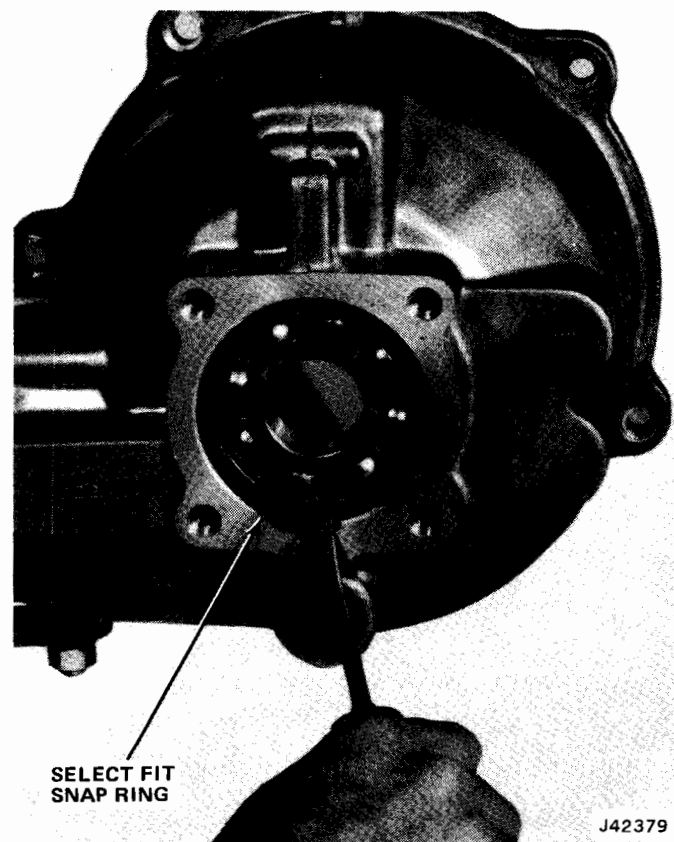

Fig. 8-30 Removing Rear Annular Bearing Snap Ring
(1) Remove rear snap ring and annular bearing (fig. 8-30). The rear snap ring is select-fit and available in thickness ranges of 0.086 to 0.088 inch, 0.089 to 0.091 inch, 0.092 to 0.094 inch, 0.095 to 0.097 inch, and 0.098 to 0.100 inch. The front snap ring should be 0.086 to 0.088 inch.
(2) Install front snap ring and bearing, then install thickest rear snap ring that will seat completely.